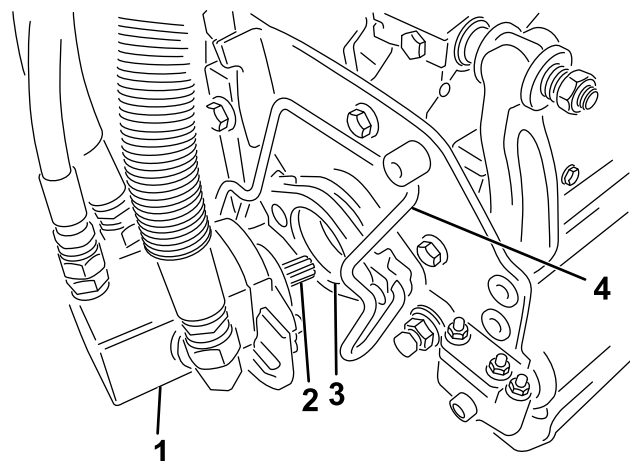

Figure 3
5. Insert the motor into the left side of the tri-roller unit (as viewed from the operator's position) and pull the motor retaining bar on the tri-roller unit toward the motor until you hear a “click” from both sides of the motor (Figure 3).